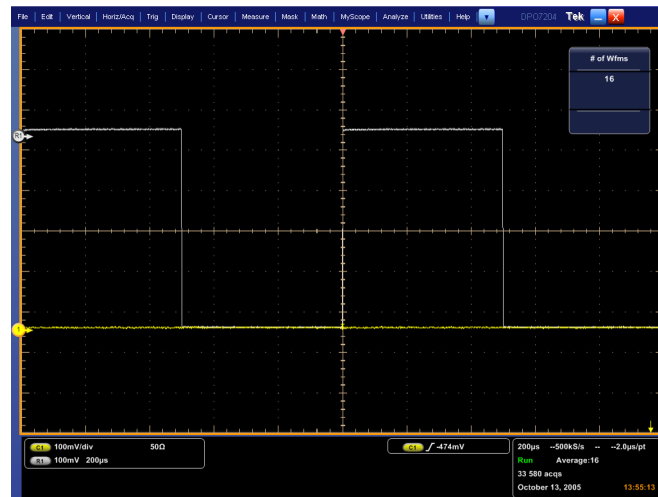

Figure 40: Measurement of probe compensator amplitude
- d. Press the **X** (close) button to remove the menus from the display. (See Figure 40: Measurement of probe compensator amplitude.)